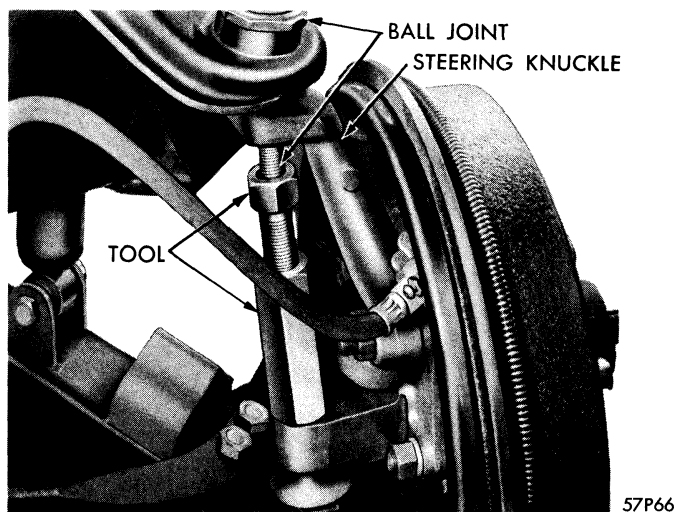

Figure 9—Removing Upper Ball Joint from Knuckle
Remove cotter pin from the upper ball joint nut, then loosen nut one or two turns. Install Tool C-3564 so that the tool seats evenly against the ends of the upper and lower ball joint stud, as shown in Figure 9. Spread tool enough to place studs under pressure, then rap knuckle sharply to loosen stud in knuckle. *Do not force ball joint from knuckle with tool alone.*
2. **INSTALLATION**—Remove the lubrication fitting from bottom of ball joint, then using Tool C-3560, as shown in Figure 9, unscrew ball joint from lower control arm. When installing new ball joint, it is very important that the ball joint threads engage those of the control arm squarely.